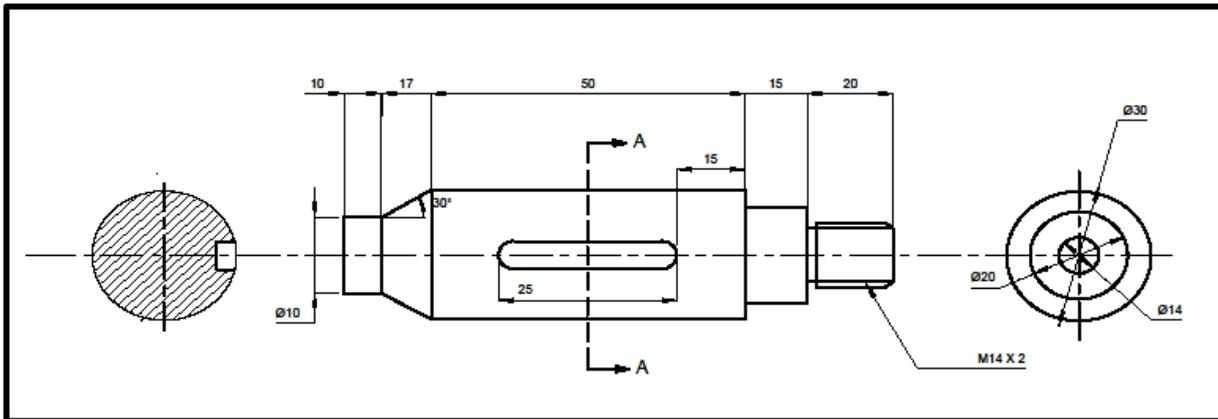

FIGURE 1: MACHINE PART
1. FIGURE 1 indicates the valve assembly in an internal combustion engine. Answer the following questions.